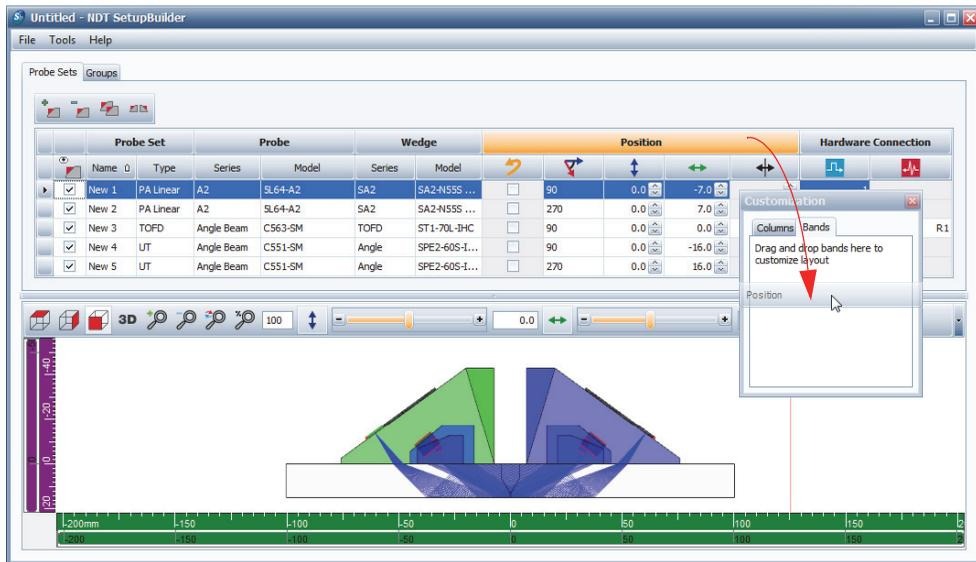

Figure 4-9 Removing a section header from a tab
- To remove an entire section header, including all of its columns, drag the desired section header from the tab on the main window to the **Bands** tab in the **Customization** dialog box (see Figure 4-9 on page 38).